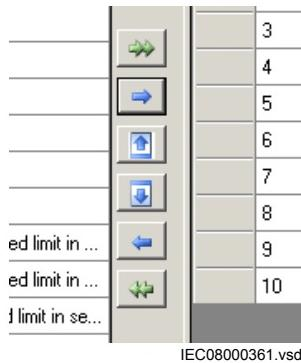

Figure 77: CMT: Move buttons
3. Press the green double arrow button to insert all signals into the configuration, see Figure 77.